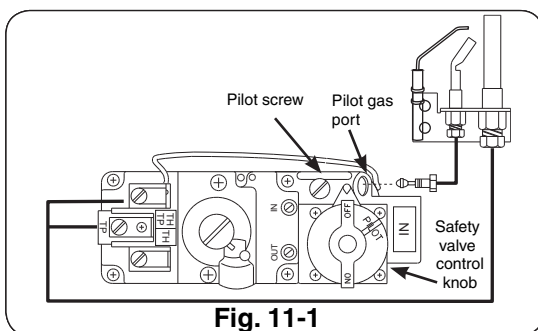

Fig. 11-1
To read the safety valve control knob (Fig. 11-1), read the marking nearest the teardrop-shaped metal pointer.
- b. If adjustment is necessary (Fig.11-1), turn the gas adjustment screw counterclockwise ↺ to increase the pilot flame, or clockwise ↻ to decrease the pilot flame.